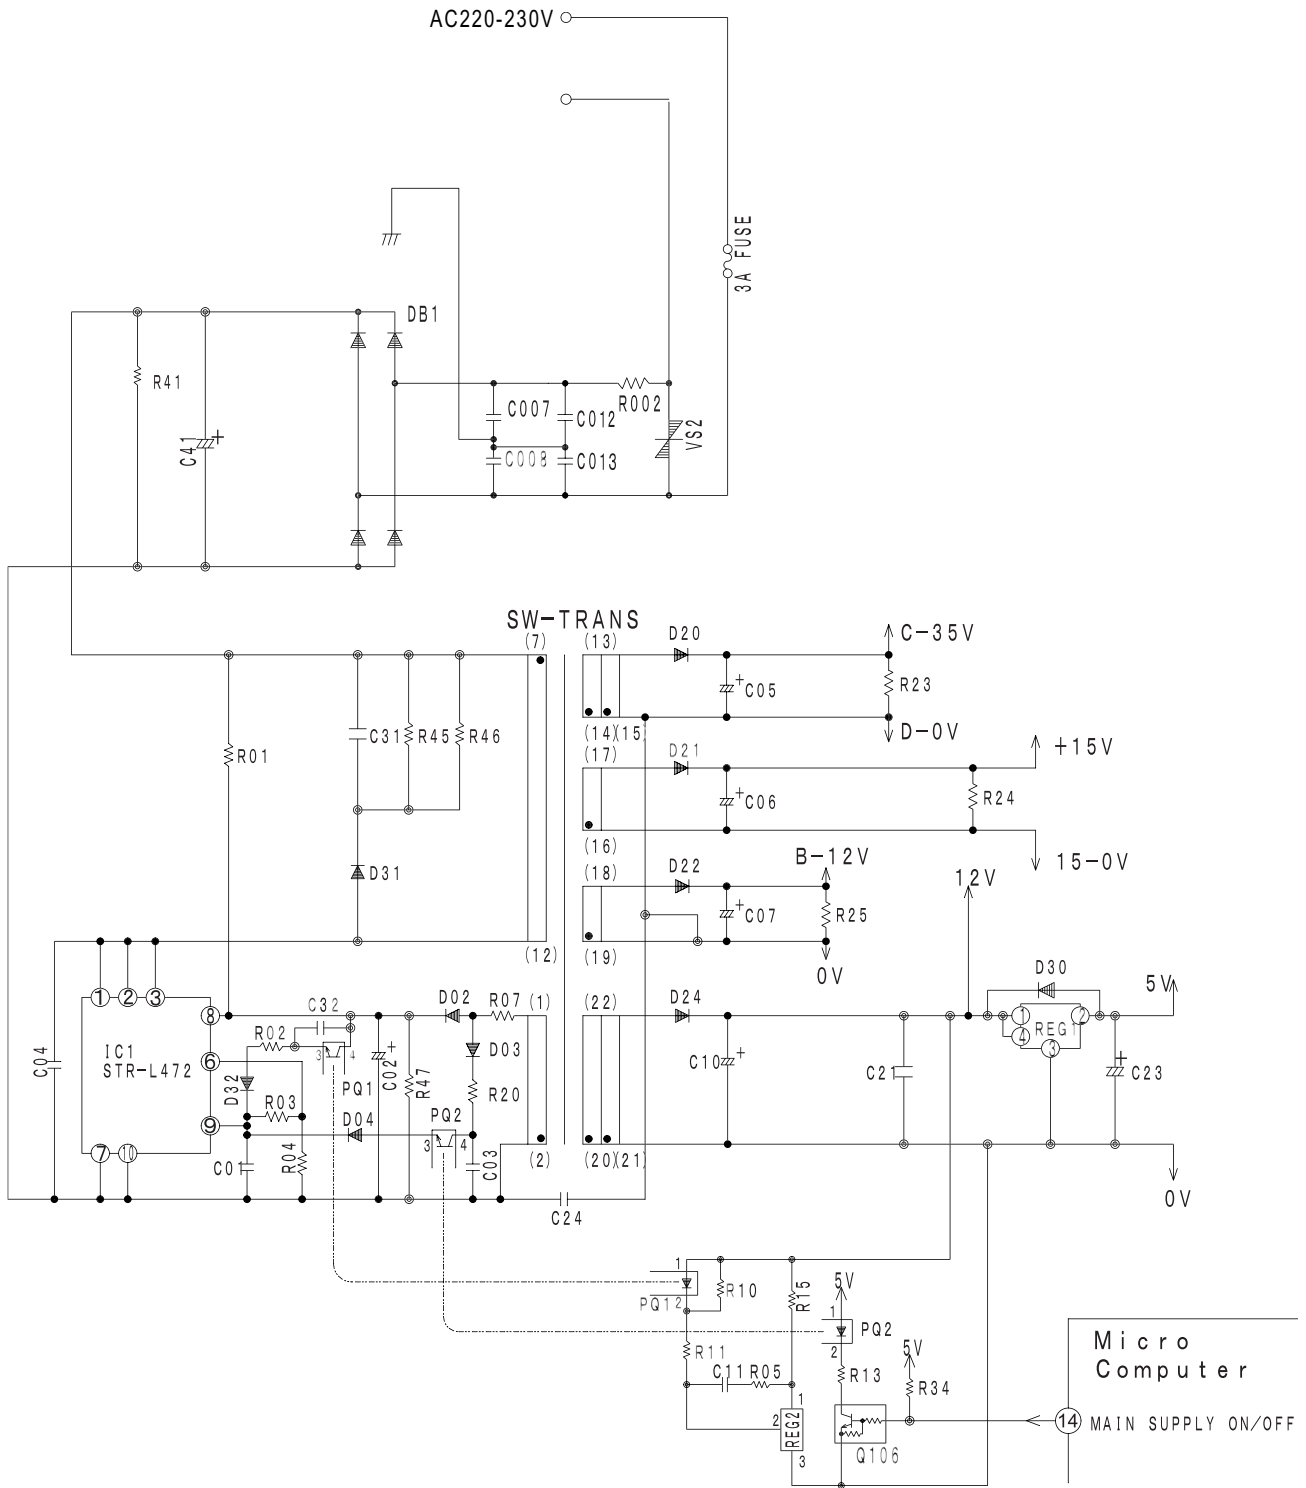

Fig. 5-1
- Fig. 5-1 shows the power circuit for P.W.B.